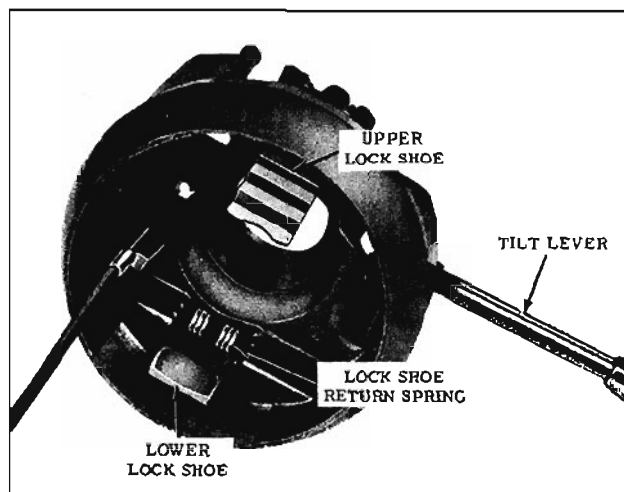

Fig. 8-112 Actuator Housing (Bottom View)
- a. Place the actuator housing on the bench with the lower side up and the turn signal and tilt lever openings on the right side. (Fig. 8-112)